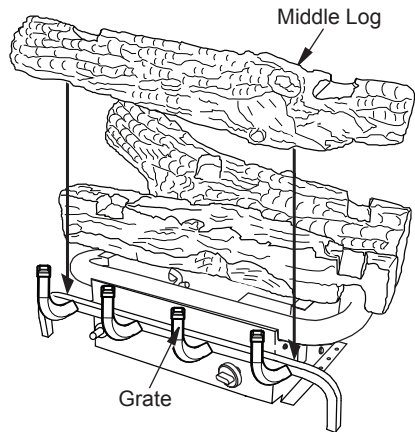

Figure 26 - Installing Front Log
3. Place the front log onto grate as shown in Figure 26.